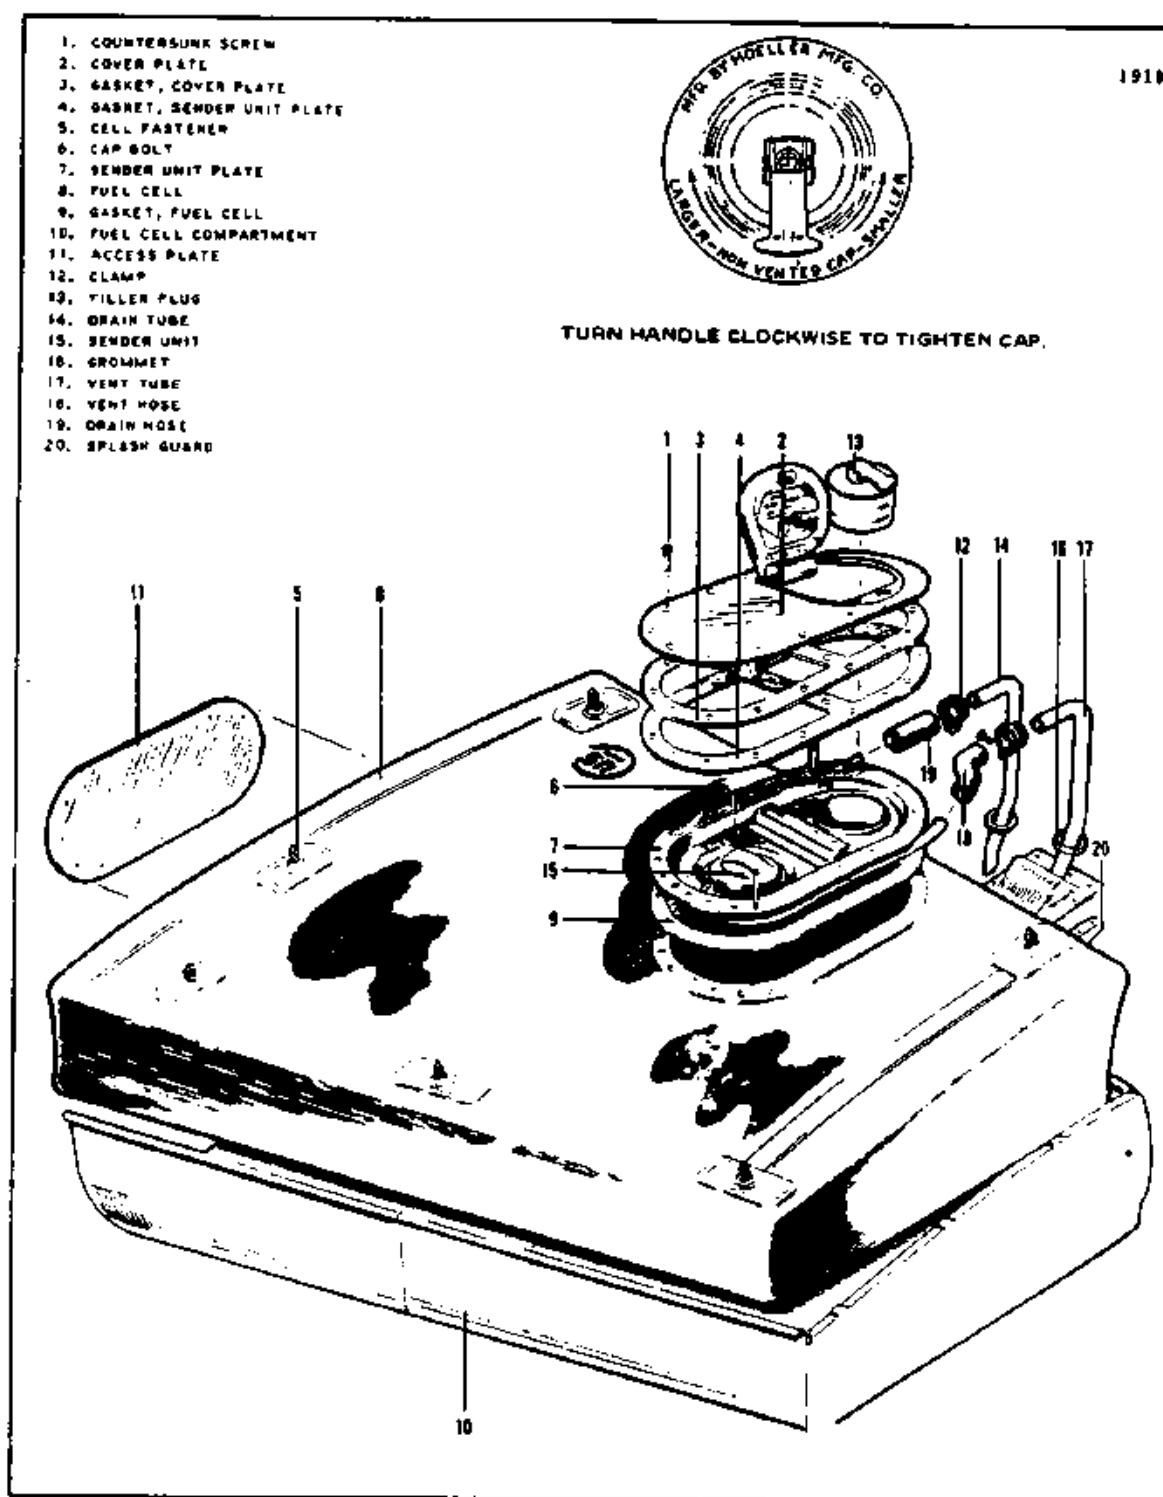

Figure 9-3. Fuel Cell Installation (Main/Inboard)
##### 9-5. REMOVAL OF FUEL CELLS. (Refer to Figures 9-3 and 9-4.)
**9-9. INSTALLATION OF FUEL CELL. (Refer to Figures 9-3 and 9-4.)**
- g. Secure the cell within the compartment by pressing the fasteners (5) into their brackets until they snap lock into place.
1. Place a gasket (17) between the fuel cell (8) and the bottom of the filler neck.